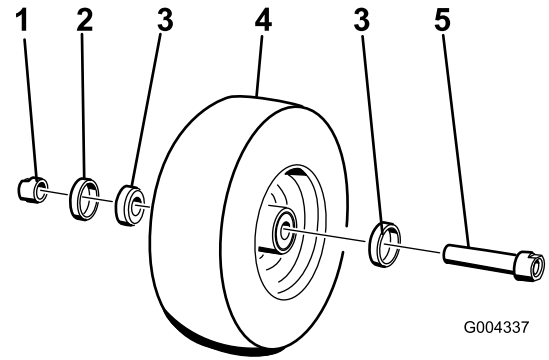

Figure 28
6. Remove **one** of the spacer nuts (with wrench flats) from the axle (Figure 28).
7. Remove the axle **without** removing the opposite spacer nut (Figure 28).
10. Insert the bearing and a new seal into the wheel (Figure 28).
12. Install the assembled nut and axle into the wheel on the side with the bearing and a new seal (Figure 28).
14. Install the second bearing and a new seal into the wheel (Figure 28).